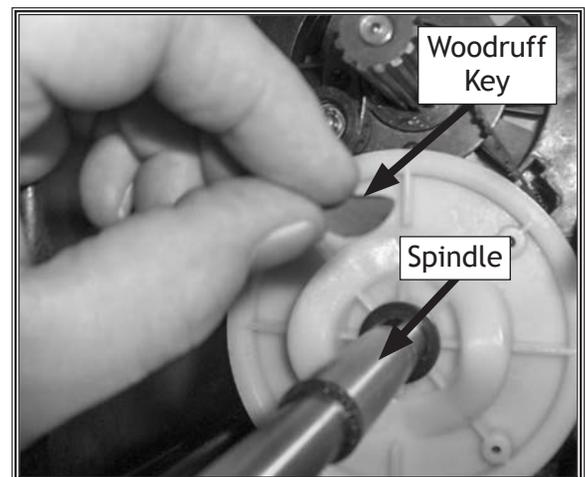

Figure 25. Installing Woodruff key into spindle.
18. Install Woodruff key (#56) into spindle (#55), as shown in **Figure 25**.